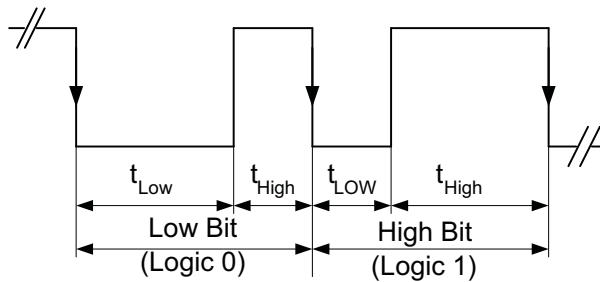

Figure 16. EasyScale Bit Coding
- **High Bit:**  $t_{High} > t_{Low}$ , but with  $t_{High}$  at least twice the duration of  $t_{Low}$ , see Figure 16.
- **Low Bit:**  $t_{High} < t_{Low}$ , but with  $t_{Low}$  at least twice the duration of  $t_{High}$ , see Figure 16.